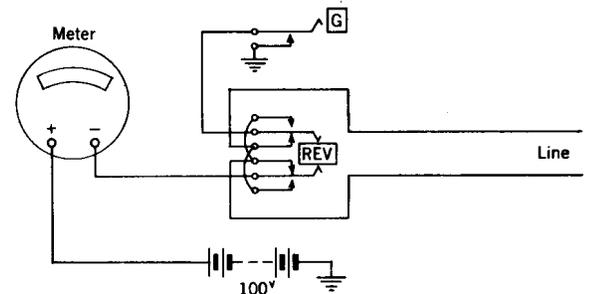

Fig. 7 - Operation of G and REV Keys
5.03 Set up the connection to the subscriber line. Fig. 7 shows the connection for the voltmeter test. (In case the subscriber line is equipped with one or more tube type subscriber sets, operate the 20,000 key as the presence of the tube on the line will probably affect the results if the 100-volt test battery is used.) No test should be made until the needle of the instrument comes to rest. To make a voltmeter test, proceed as follows:
- (a) Condenser across Tip and Ring: See Fig. 7. The operation of the G key connects ground to the tip side of the line and allows current to flow from the test battery through the winding of the voltmeter to charge the condenser. The momentary flow of current causes a momentary deflection, or "throw" of the voltmeter needle. The operation of the REV key reverses the line causing the condenser to discharge in series with the test battery and voltmeter, and immediately recharge with a polarity opposite to the original charge. This operation causes a "throw" of the needle approximately twice as great as when the G key was operated at the beginning of the test. The increased "throw" is due to the combined effect of the test battery and the charged condenser. The restoration or any subsequent operation of the REV key results in like manner in the same increased deflection. The extent of the "throw" is proportional to the capacity of the condenser. Table 7 at the end of the section shows the approximate "throw" (ballistic deflection) for various station connections and for different gauges and lengths of cable and for various values of line insulation resistance. The values given on the table are approximate only and are to be used as a guide for the results that may be obtained from various
(b) Condenser Connected between the Ring Side of the Line and Ground: See Fig. 7. When the test circuit is connected to the line, current flows through the winding of the volt-milliammeter and charges the condenser. As previously stated, however, no attention should be paid to any deflection of the volt-milliammeter incident to establishing the testing connection. The operation of the G key has no effect on the circuit. The operation of the REV key with the G key operated, connects ground to the ring side of the line and discharges the condenser. This action is not indicated by the volt-milliammeter. The restoration of the REV key causes current to again flow through the winding of the volt-milliammeter and recharge the condenser. The recharge of the condenser is indicated by a momentary deflection of the voltmeter needle. The extent of the deflection is proportional to the capacity connected between the ring side of the line and ground. The ballistic deflection, Table 7, includes values for station connections with a condenser from one side of the line to ground. In testing a condenser connected between the ring side of the line and ground, the important operation is the restoration of the REV key.
(a) Restore all keys to normal - See Fig. 7. If a steady deflection is obtained with all keys normal, a ring ground is indicated. Current flows through the winding of the volt-milliammeter to the ring side of the line to ground.
(b) Operate the REV key - See Fig. 7. If a steady deflection is obtained, a tip ground is indicated. Current flows through the winding of the volt-milliammeter to the tip side of the line to ground.
(c) Operate the G key - See Fig. 7. If a steady deflection is obtained, a tip and ring cross is indicated. Current flows through the winding of the volt-milliammeter to the tip side of the line, through the cross to the ring side of the line to ground at the G key.